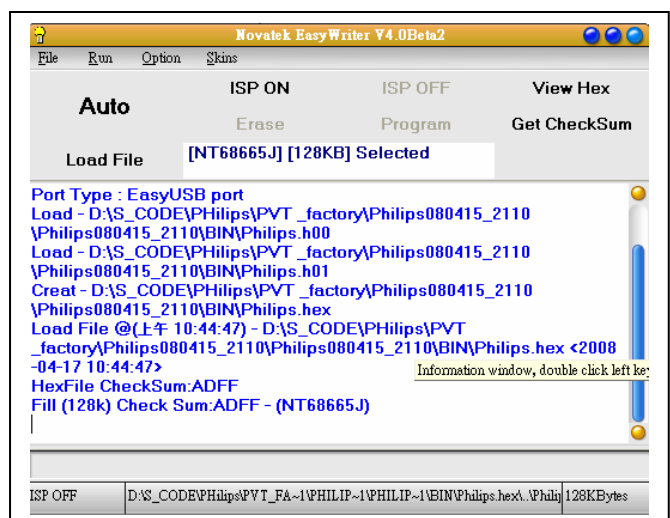

Fig. 5.
5. Press the "ISP ON" button ,then the dialog box will has the information "ISP ON",else has the information "ISP Fail".If the information is "ISP Fail",check the connectivity ,then try it again as shown in Fig. 5.